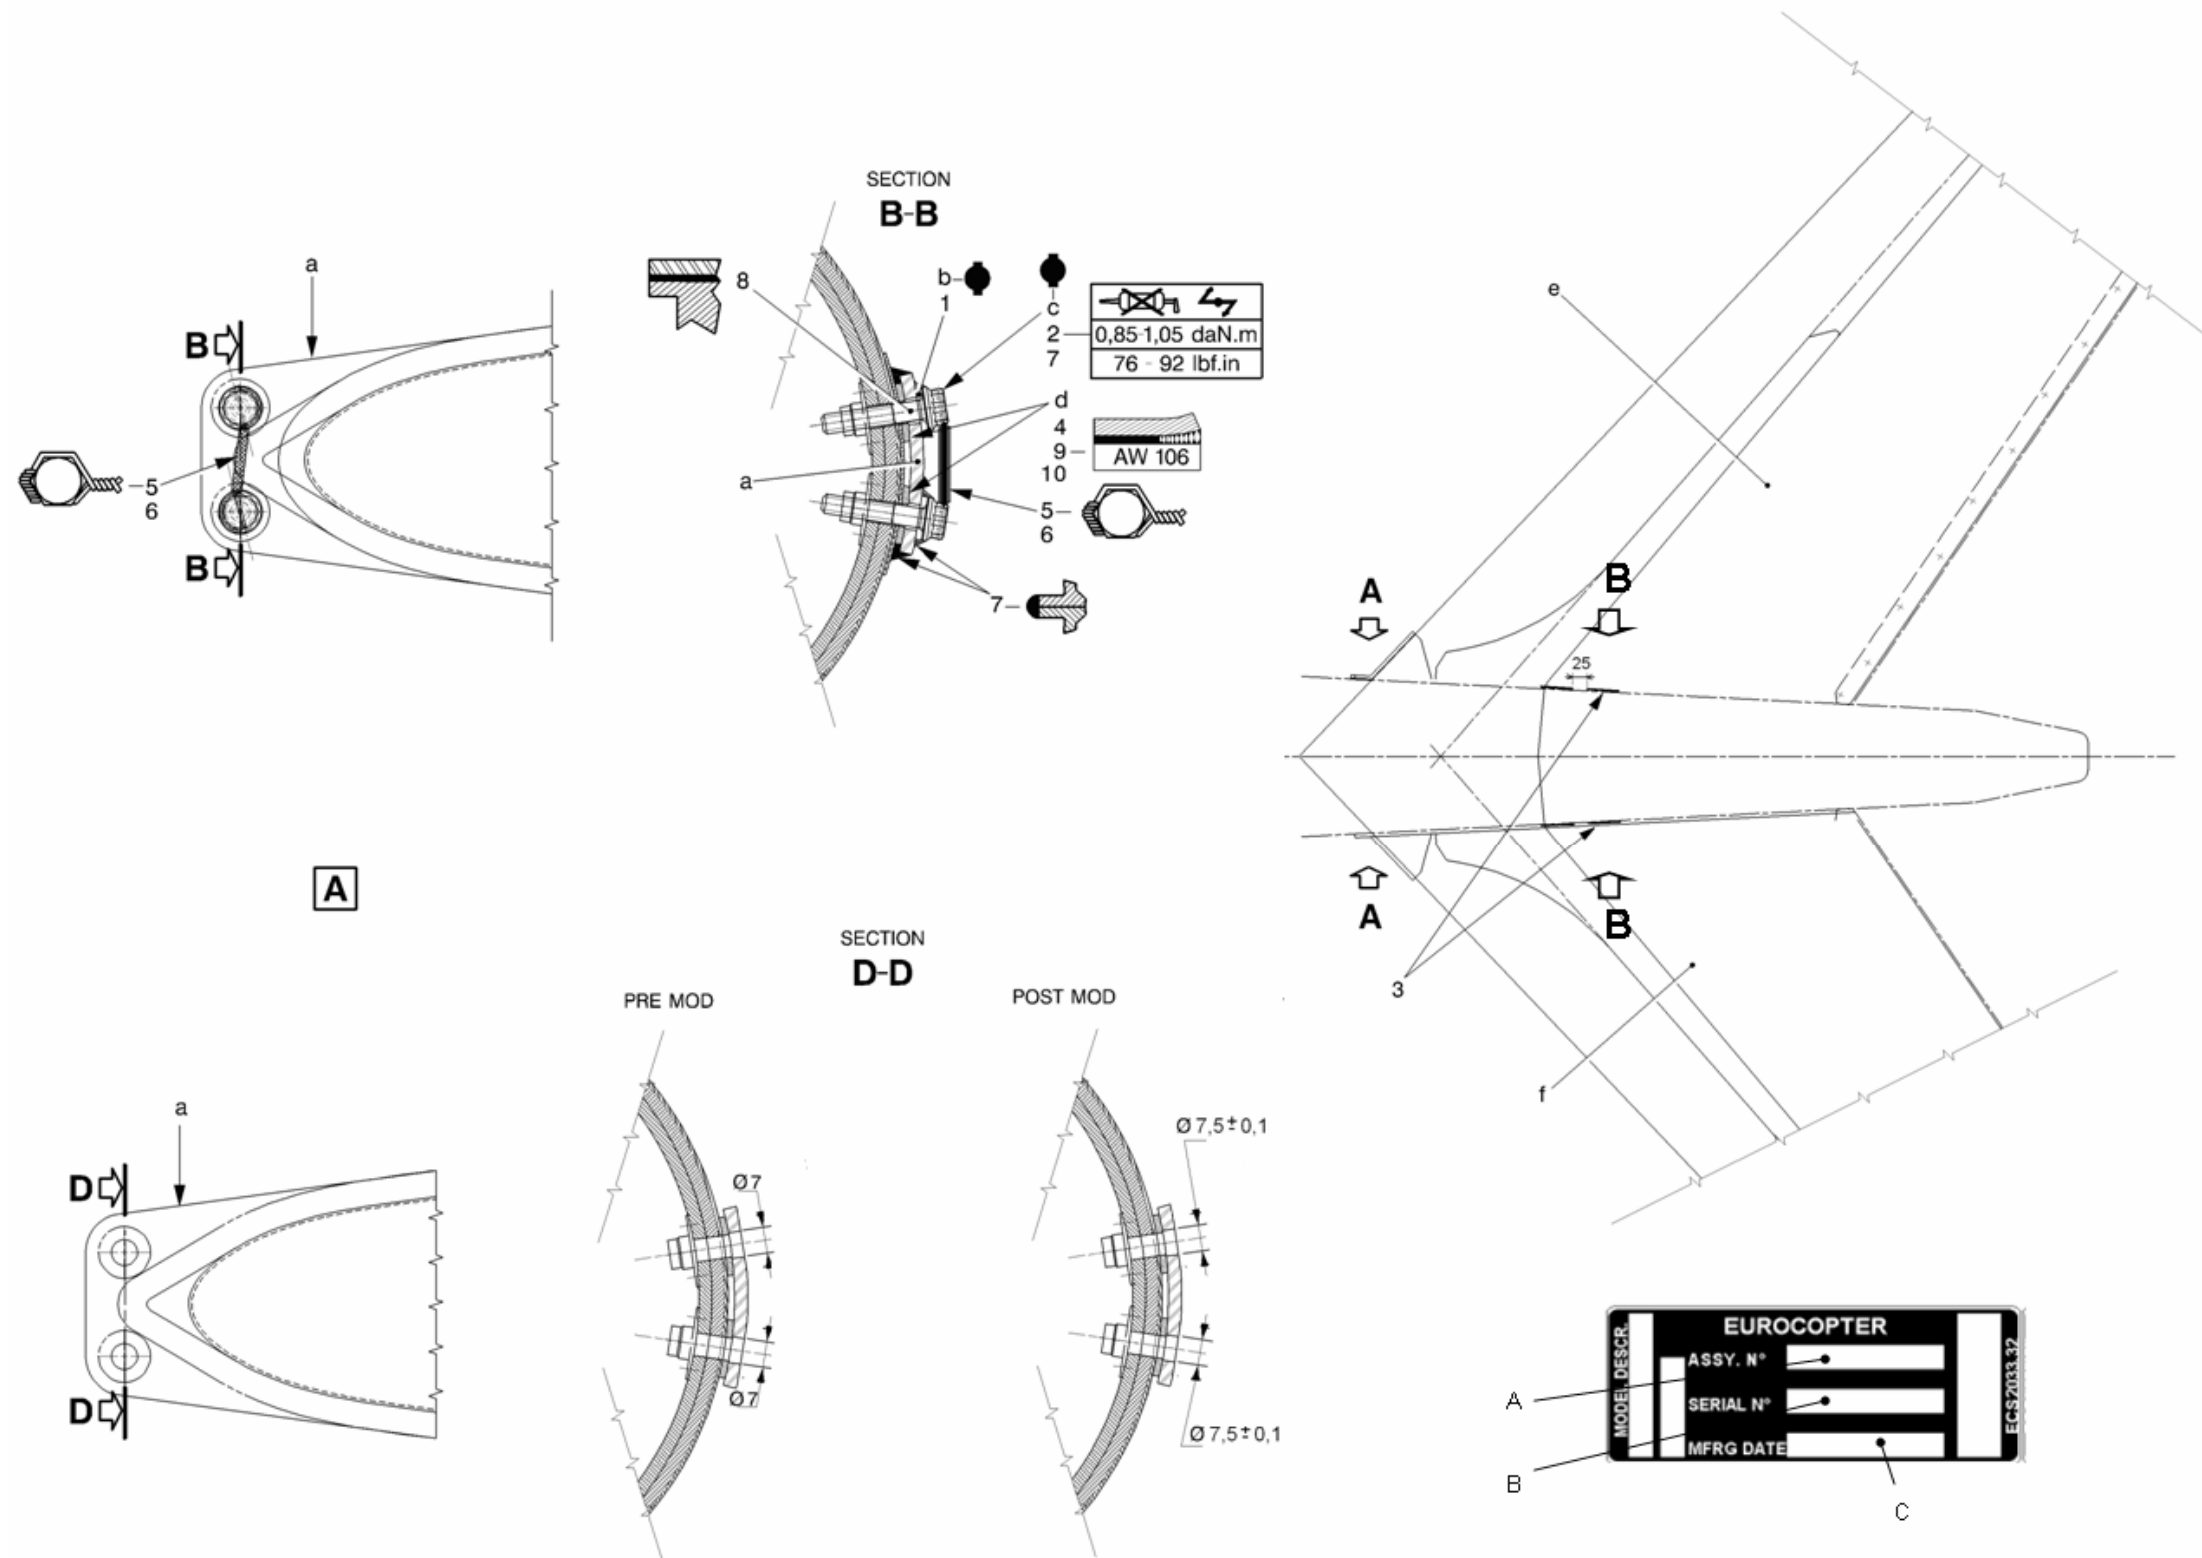

Figure 1
2.B.2.a. Removal of fins (Figure 1)
2.B.2.b. Modification of lower and upper fittings on work bench (Figure1, Detail A and Section D-D)
2.B.2.c. Installation of fins (Figure 1, Detail A and Section B-B)
- define thickness of peel washers (4) to be installed as per clearance read,
- install and bond peel washers (4) on skin of tail boom by means of adhesive (9) and hardener (10) as per Work Card 20.06.02.303 (MTC).
- Loosen TGB attachment bolts TGB in order to facilitate installation of new bolts (2).
- Coat shank of bolts (2) with sealant (8).
- Fit bolts (2) fitted with washer (1).